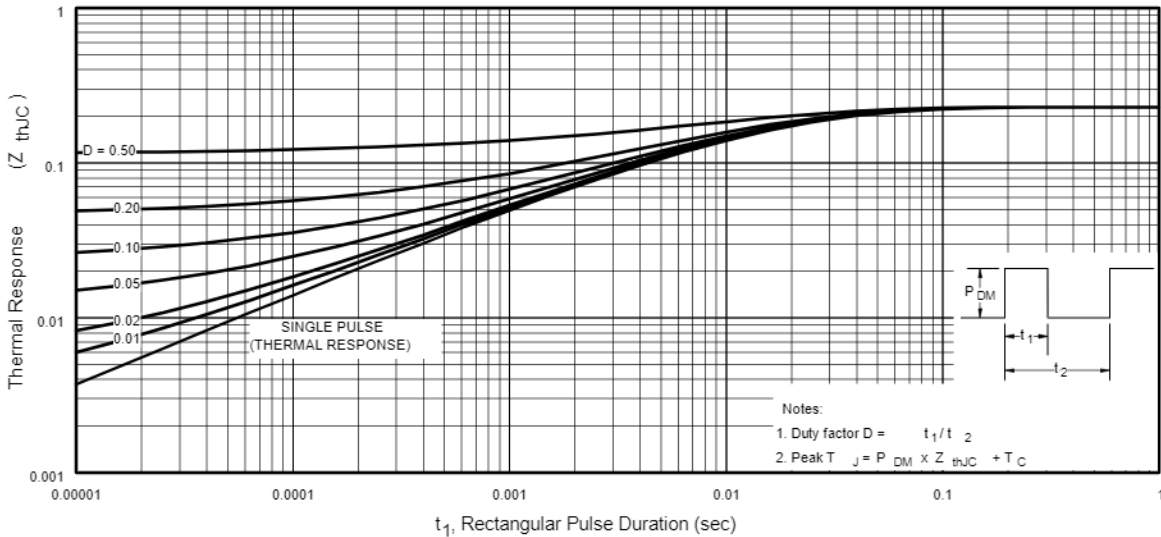

Fig 11. Maximum Effective Transient Thermal Impedance, Junction-to-Case
- Ⓛ Repetitive rating; pulse width limited by max. junction temperature. (See Fig. 11)